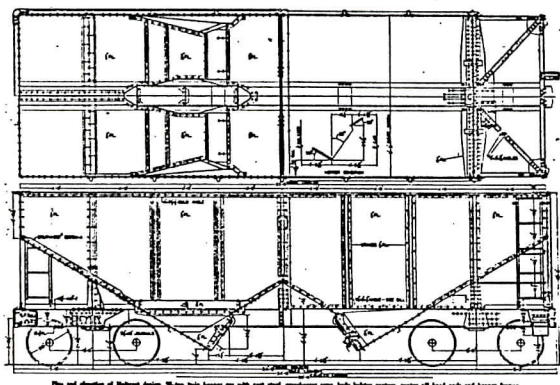
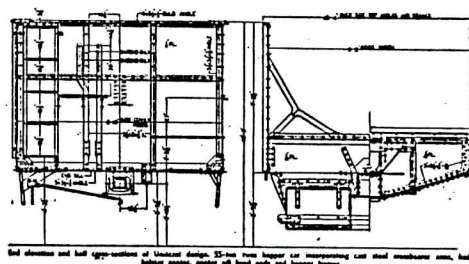

fig. 1
fig. 2
A. Grab Irons--The prototype plans for this car (figs. 1 and 2) show two grab irons on each end. I use a #78 drill bit (0.016") for the holes and Super T Hot Stuff to glue the Northeastern S grab irons. Each side also has two hand holds on them. Clover House has 0.013" brass spring wire that can be used with the same drills and glue.
B. Steps--The steps on the model are in a different position from the drawings (fig. 1). If you would like to put a support strap on the step (fig. 2) you will have to cut the steps off. This will weaken them, but it adds to the appearance of the model. The strap is made from 0.010" by 0.060" styrene strips. Cut on an angle and glue with styrene glue. I have found the best way to bond styrene to styrene is with a lcc plastic syringe with a 25 gauge needle and styrene glue or solvent. My first choice for a styrene solvent is MEK (methyl-ethyl-ketone). I work in a medical school lab so I have no problem getting these things. Other commercially available styrene thin liquid cements may also work. Remember when cementing the step to the side sill that the step is flush with the corner of the car. The strap goes on at a 45° angle to the end sill. I re-attach the step and support as the last step before painting as it can be knocked off.
F. Hopper Door Hardware--Although no hopper door latches are commercially available, these can be represented by cutting Grandt Lines reefer door hinges in half through the hinge. These should be mounted on the outside of the bays by the doors (see fig. 1). The steel Z brace that aligns both hopper doors and prevents them from being opened separately can be made with either 1/16" Z or angle strip wood or plastistrut. Attach this per figs. 1 and 2.
G. Ladders--The ladders provided are very nice but a little tricky to mount correctly. They should be parallel to the side of the car. I made brackets for the ladders out of strip styrene. The ladders on the end use 0.020 x 0.060 for the top bracket and 0.010 x 0.060 for the bottom bracket. These are all cut 1/16" long. The side ladder uses 0.010 by 0.060 on the top and 0.020 x 0.060 for the bottom bracket. These are also all cut 1/16" long. First remove the pins from the back of the ladders, then mount these to the ladder first and then to the side. Use figs. 1 and 2 to determine where the brackets go on the ladder.
H. Inside Bracing--If you are not planning on using a hopper load (have you seen the ones that Train Stuff puts out?) They are very nice) your car should have braces on the inside, see fig. 2. This can be made with 0.010 x 0.060 strip styrene. Two of these should be made to go in the center between both hoppers.
of the coupler line (see fig. 2). You can now measure and cut the main brake pipe to fit into the hole in the angle cock which can now be either glued or carefully (don't forget the heat sink) soldered in place. The brake hose and glad hand can now be slid on.